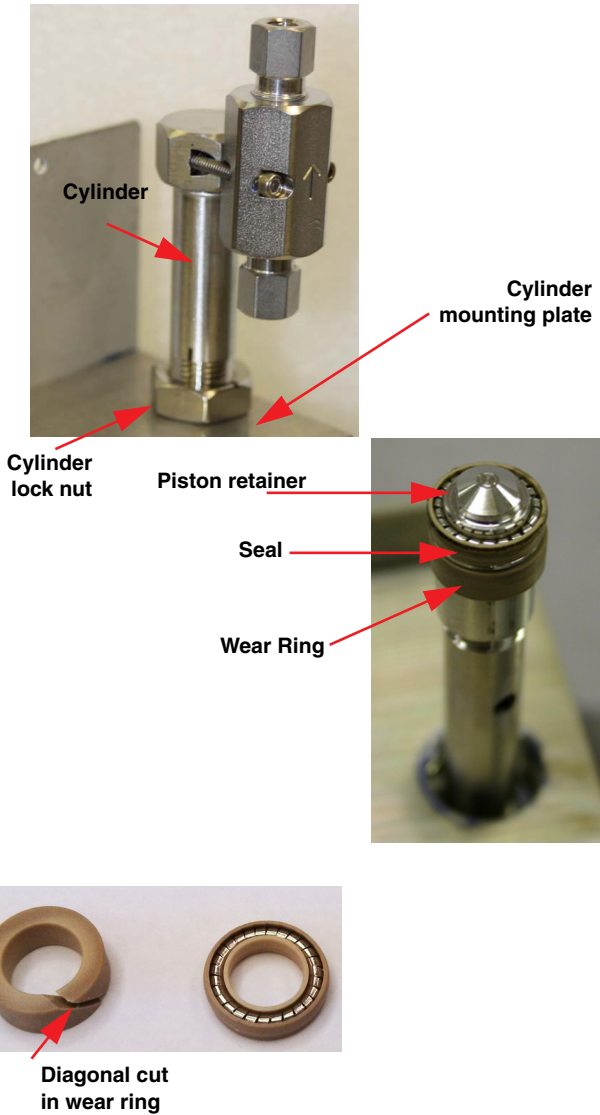

Figure 4: NextGen pump cylinder and seals
4. Remove the old wear ring by peeling it apart at the diagonal cut (Figure 4).
5. Remove the old wear ring by peeling it apart at the diagonal cut (Figure 4).